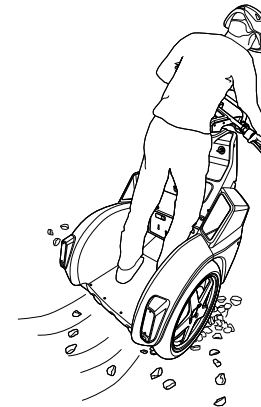

Figure 21: Avoid Low-Traction Surfaces
- Avoid riding on slippery or low-traction surfaces such as snow, ice, wet floors, wet grass, or any other surface that might cause loss of traction (**Figure 21**).